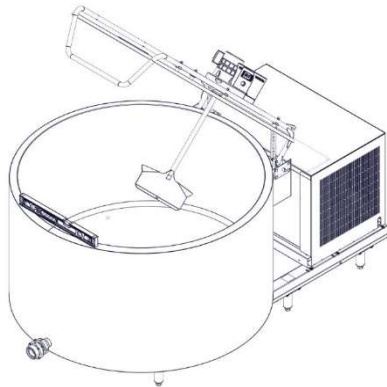

Figure 4: Tank leveling process. Stage 1B
2. Place the spirit level on the rim of the vessel at a 90-degree angle to the previous position, as shown in Figure 4. Rotate the adjustable feet until absolute leveling is achieved in this direction as well.